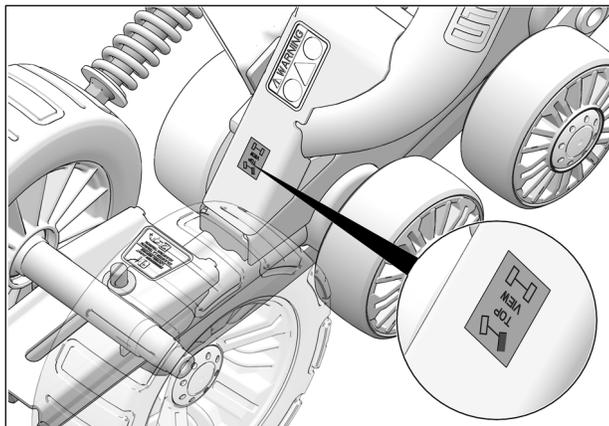

Fig. 2
2. Identify the mounting position of each Track System undercarriage unit; the position is indicated on a small sticker affixed on the undercarriage frame. See Fig. 2